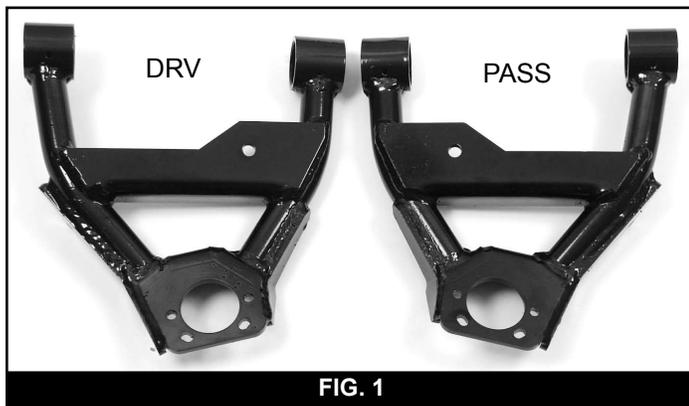

FIG. 1
11. Locate the new driver's side control arm (Fig. 1).